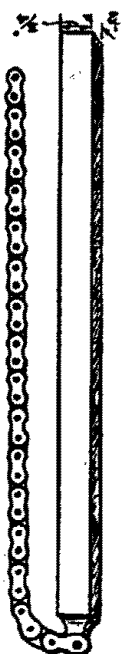

FIG. 25.—CHAINBAR FOR USE WHEN REMOVING GEARBOX SPROCKET NUT.
- (9) Rear chain, the mainshaft can now be withdrawn from the clutch end of the gearbox. Using a chain bar, which is simple to make (Fig. 25), with a short length of $\frac{5}{8}$ in. $\times$ $\frac{3}{8}$ in. chain attached, drape the chain round the sprocket, with the bar propped against the frame. Should it be inconvenient to make a tool of this kind, leave the chain attached and apply pressure on the brake pedal to release the sprocket-fixing nut after turning up the tab washer. This nut is usually very tight, as it must be, and for this reason the use of a chain bar is desirable.
- (10) The sprocket spacing collars, recording the position in which they are fitted.
- (11) The main driving gear, which can be tapped into the gearbox shell.
- (12) The main bearing after extracting the circlip, washer and oil seal.
- (13) The mainshaft ball-bearing in the kick-starter case, which is also retained by a circlip.
The nut securing rear-chain sprocket is firmly tightened, as it must be, therefore some difficulty may exist in holding the sprocket during this process. The chain bar (Fig. 25) is the tool for this job, fitted on the sprocket, with the bar propped against the frame after disconnecting the rear chain.